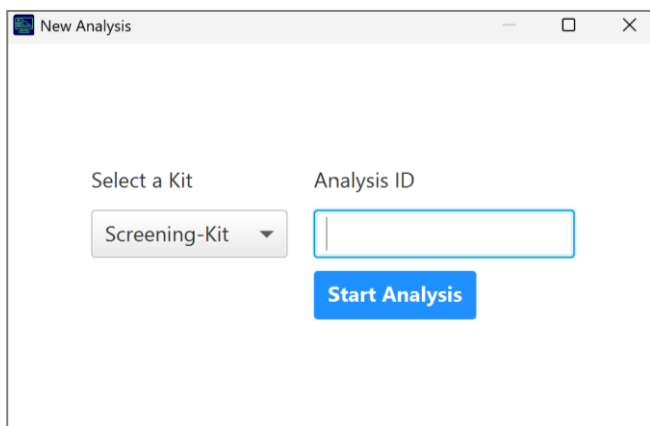

Figure 12. View of the *New Analysis* window
3. In the window that opens, select the appropriate kit from the drop-down menu. Enter an analysis ID and click Start Analysis (see Figure 12).